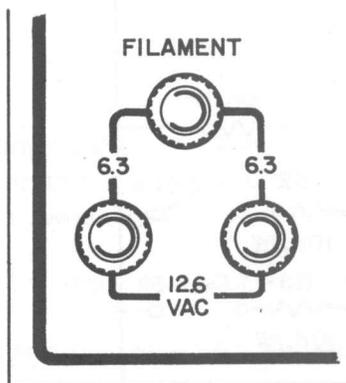

FIGURE 2-2
4. Using Figure 2-2 and the space provided, draw a circuit showing two 12.6 VAC lamps, at 750 mA each, connected to the 12.6 VAC binding posts.
- Will the circuit breakers hold for the circuit of Figure 2-2? _____
- If the current rating of each lamp in the circuit of Figure 2-2 were increased to 950 mA each, would the circuit breakers hold? _____